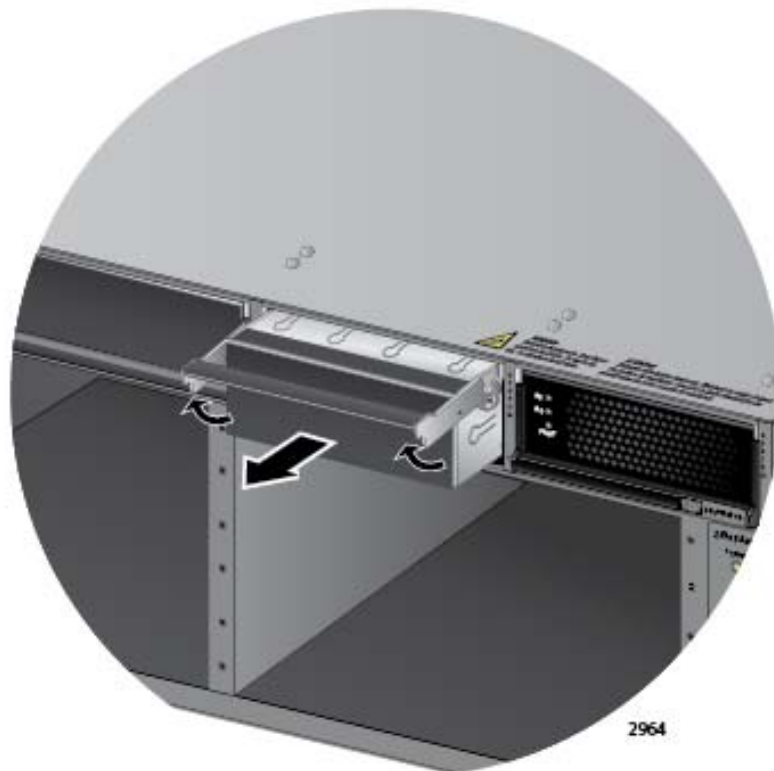

Figure 50. Removing the Blank Slot Cover from Power Supply Slot C
2. If the chassis already has a power supply in slot D, remove the blank power supply panel from slot C by lifting the blank panel handle and sliding it out of the slot, as shown in Figure 50.